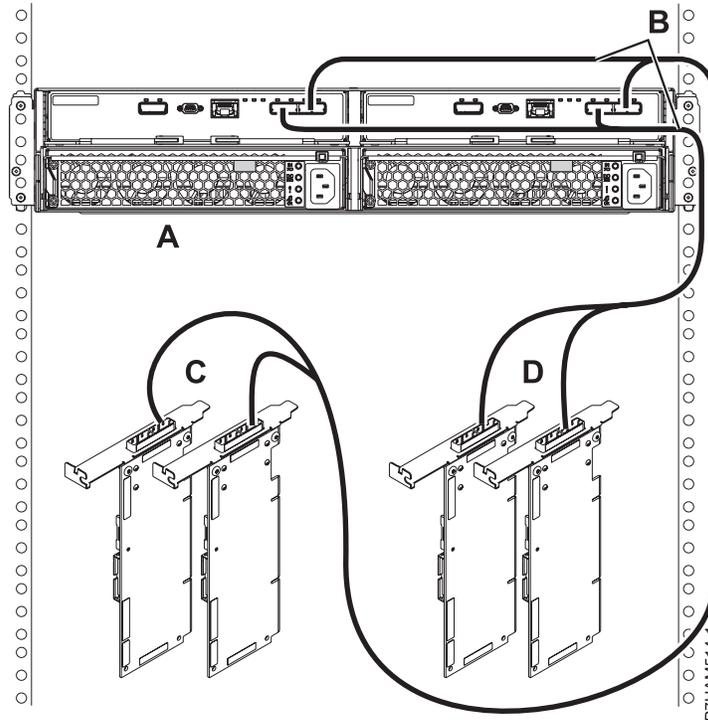

Figure 36. Mode 2 connection of one 58/87 disk drive enclosure by using X cables to two SAS adapter pairs
- p. Perform the mode 2 connection of one 58/87 disk drive enclosure (A) by using X cables (B) to two SAS adapter pairs as shown in Figure 36 on page 32.